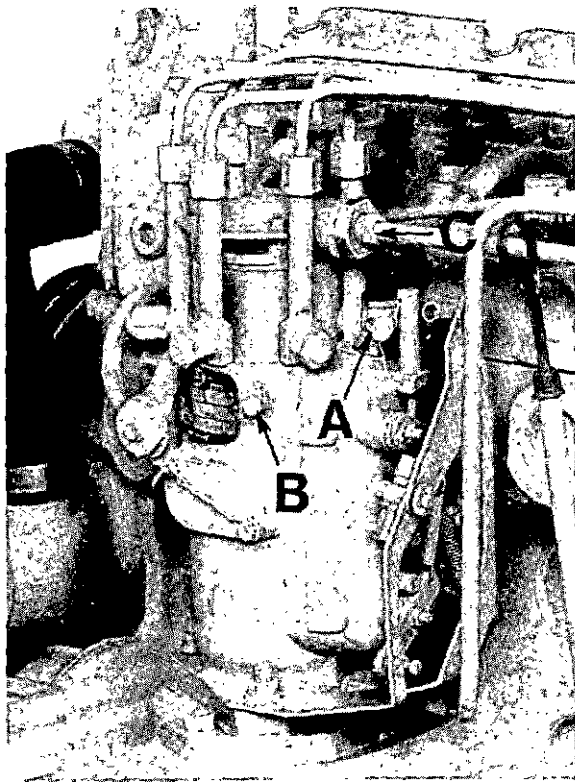
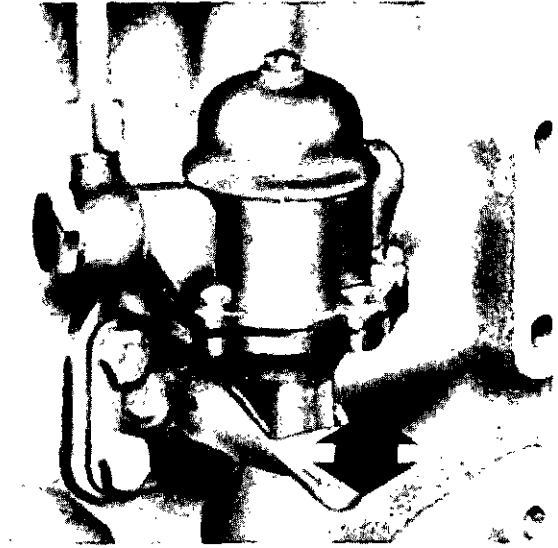
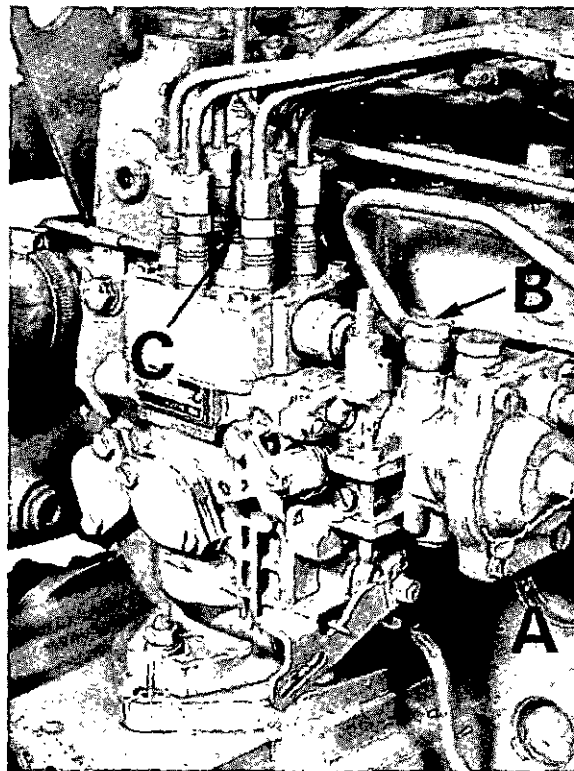

Fig. 23 CAV fuel injection pump vent screws
Fig. 24 Fuel lift pump
Fig. 25 Bosch fuel injection pump vent screws
2. Operate the priming lever on the fuel lift pump (see fig. 24) until fuel, free of air, comes from the filter vent point. Tighten the vent screw or the banjo connection bolt.
3. Loosen the union nut 'C' at the inlet pipe of the fuel injection pump (see fig. 23) and operate the priming lever until fuel, free of air, comes from around the nut. Tighten the union nut 'C'.
5. Loosen the vent screws on the fuel injection pump at 'A' and 'B' (see fig. 23). Operate the priming lever of the fuel lift pump (see fig. 24) until fuel, free of air, comes from vent screw 'B'. Tighten the vent screw. Continue to operate the priming lever until fuel, free of air, comes from vent screw 'A'. Tighten the vent screw.
3. Loosen the inlet connection 'A' and the outlet connection 'B' (see fig. 25) of the fuel injection pump. Operate the priming lever of the fuel lift pump (see fig. 24) until fuel, free of air, comes from connection 'A'. Tighten the connection. Continue to operate the priming lever until fuel, free of air, comes from the connection 'B'. Tighten the connection.
5. Clean the top of the fuel injection pump around the centre plug 'C' (see fig. 25) a *maximum* of half a turn. Operate the priming lever on the fuel lift pump (see fig. 24) until fuel, free of air, comes from around the plug. Tighten the plug.